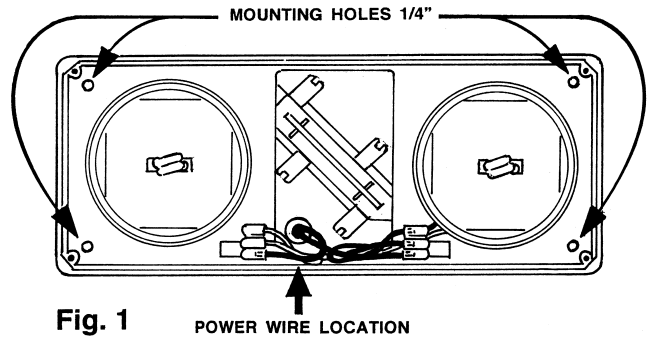

Fig. 1 POWER WIRE LOCATION
2. Remove the lens from the warning light's base by unscrewing the four (4) hex screws, one on each corner of the lens. Carefully separate lens from the base.
3. Position the warning light's base on the selected mounting location Fig. 1. Mark the four (4) mounting hole locations and mark the power wire hole location. Fig. 1. Remove the warning light from the mounting surface.
8. Drill marked mounting holes and the power wire hole to sizes shown in Figure 1 & 2.
9. Holding the light's base push the power wire through the drilled hole on the mounting surface and position the base over the four (4) drilled mounting